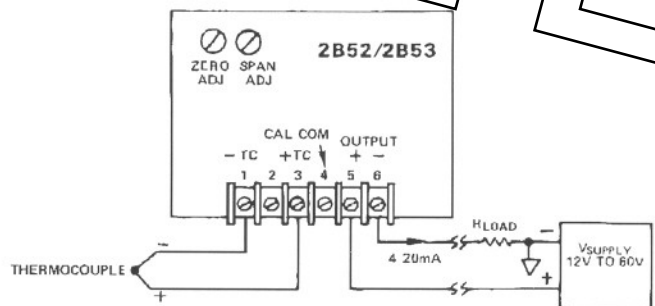
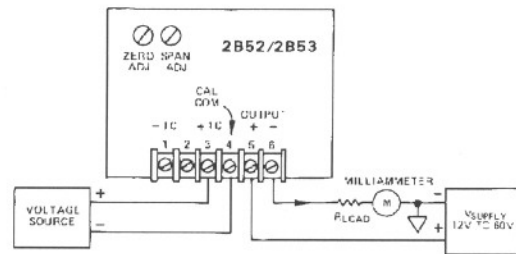

Figure 2. Model 2B52/2B53 Basic Application
Figure 4. 2B52/2B53 Calibration Connections
The connections shown in Figure 2 are common for both the 2B52 and 2B53. Note: The cold junction temperature sensor is mounted beneath Terminal 2, and therefore no user connection is to be made at this terminal. Terminal 4 (CAL COM) is only used for field calibration; see Figure 4.
1. Make connections as shown in Figure 4. Use a precision millivolt source.